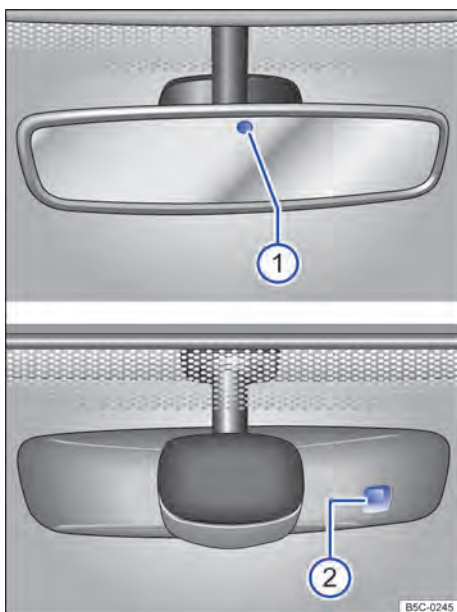

Fig. 69 On the windscreen: automatic anti-dazzle interior mirror.
The possible causes for damages and misinterpretations *in the sensitivity surface area* → **Fig. 69** of the rain sensor are among others the following:
When the ignition is turned on the sensors measure the light incidence. There are 2 sensors in the interior mirror, one that measures the incidence of light from *the front* → Fig. 69① and the other the light incidence from *behind* ②. According to the measured results the internal mirror is automatically darkened.